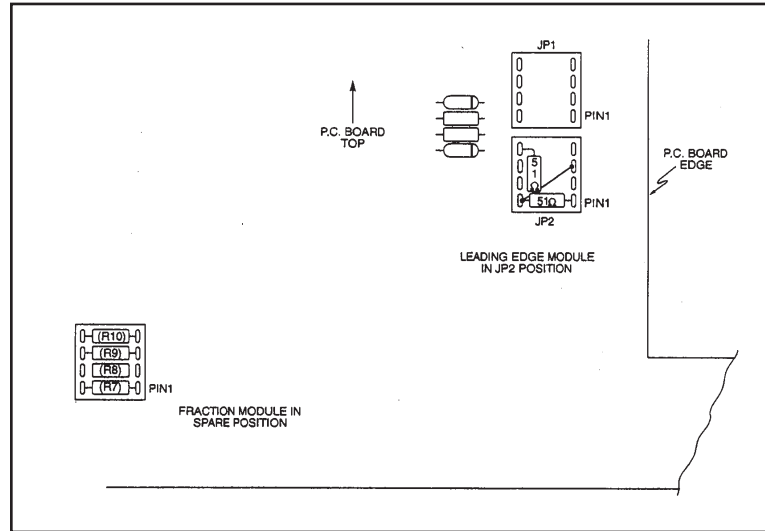

Figure 5 Leading Edge Module
To select the Leading Edge Mode, remove the Constant Fraction module from its socket near the front of the board and replace it with the Leading Edge module. A socket is provided near the bottom of the circuit board to hold the unused module. The front panel Mode Switch should be set to Leading Edge (LE). Figure 5 shows the proper installation of the Leading Edge module.